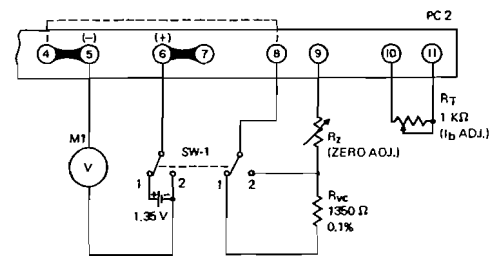

FIG. 3-5 PROGRAMMING RATIO CALIBRATION, METHOD #2
- Connect calibration set-up as shown in FIG. 3-5